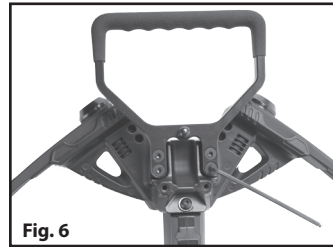

Fig. 6
1. Attach the stirrup onto the riser by using the 4 screws using the small hex wrench (Fig. 6)